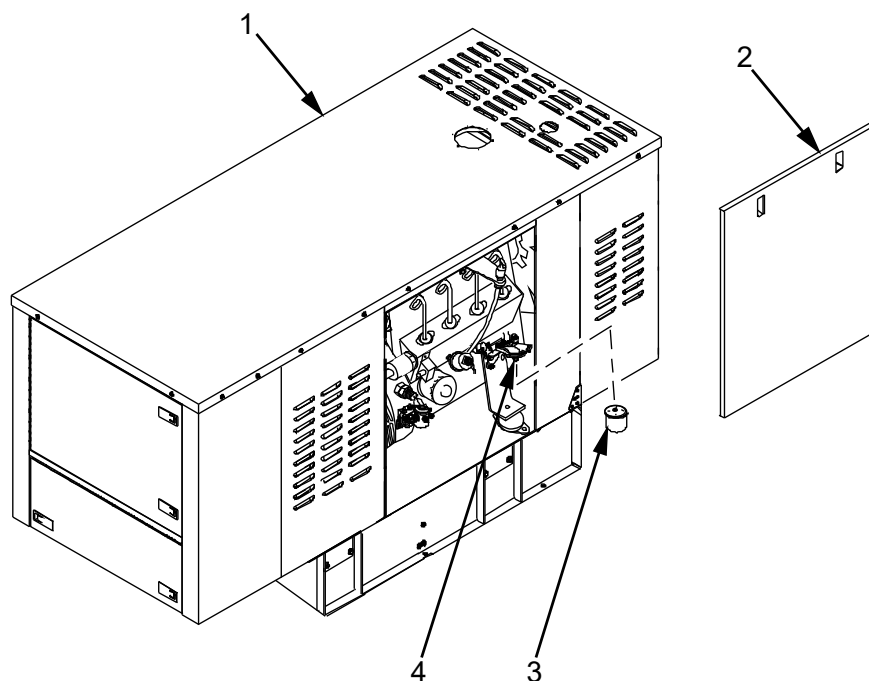
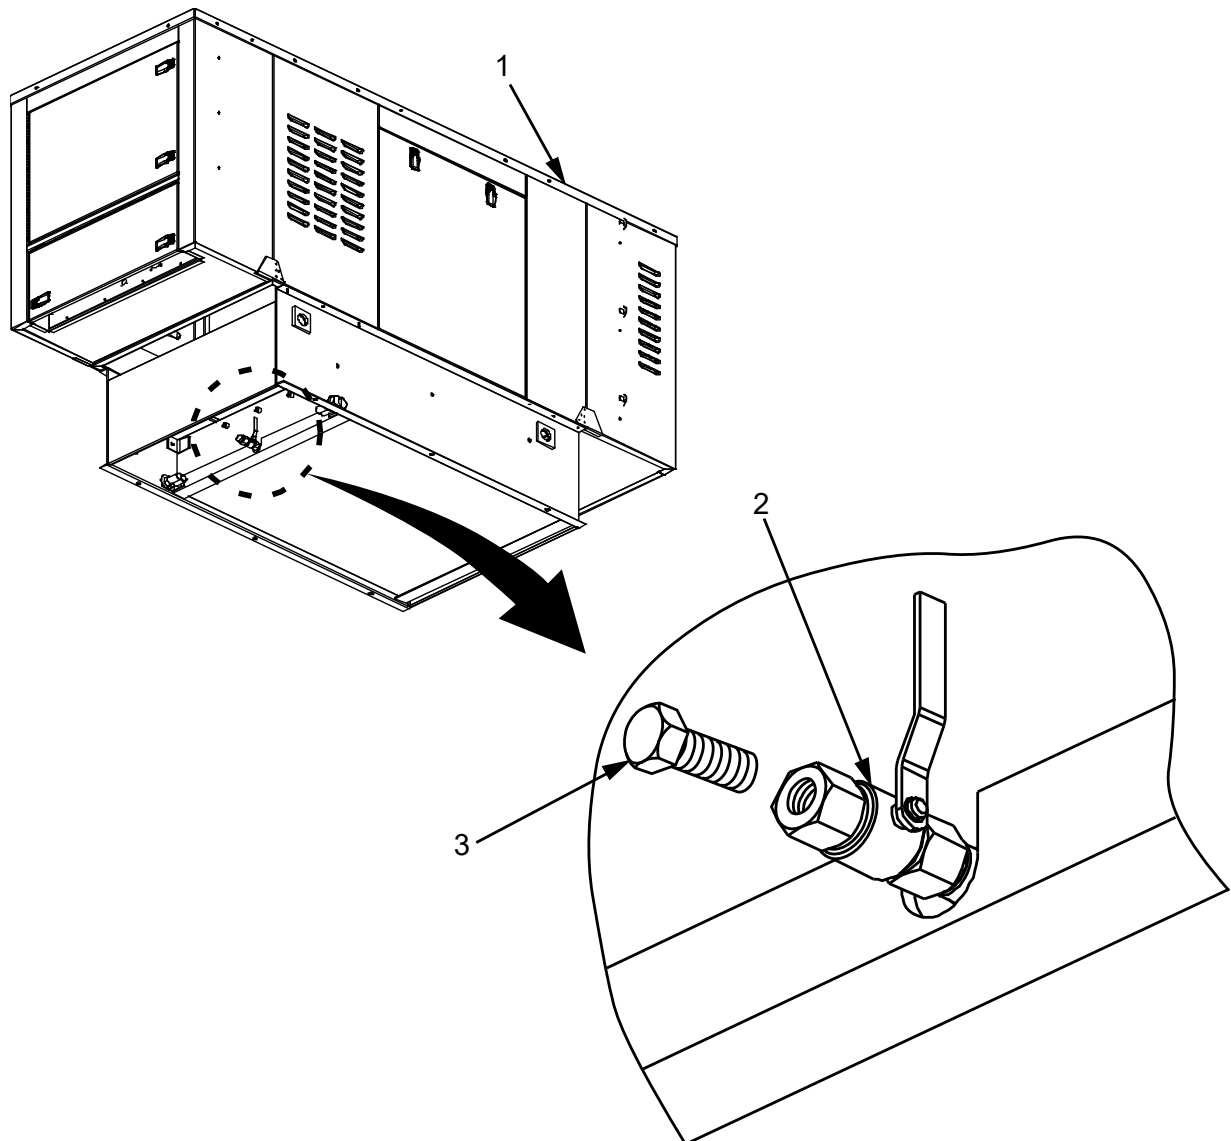

Figure 1. Fuel Filter Inspect.
Figure 2. Genset Fuel Tank Drain Location.
4. Disconnect battery ground cable (black) (WP 0056, Figure 2, Item 26) from battery.
Place drip berm under fuel filter (Figure 1, Item 3) to catch any spillage.
1. Fill fuel filter (Figure 1, Item 3) with clean fuel.
2. Install fuel filter onto fuel filter mount (Figure 1, Item 4). Tighten until hand tight.
4. Connect battery ground cable (black) (WP 0056, Figure 2, Item 26) to battery, and install rear access panel (Figure 1, Item 2).
5. Install access panel (Figure 1, Item 2).
1. Verify that Genset (Figure 2, Item 1) has been shut down, engine is cool, and that BATTERY SWITCH is set to OFF (WP 0005, Genset Shut Down Procedure).
3. Place drain pan under drain valve (Figure 2, Item 2).
4. Remove and retain plug (Figure 2, Item 3) and open drain valve (Figure 2, Item 2).
5. Once fuel tank is empty, close drain valve (Figure 2, Item 2) and install drain plug (Figure 2, Item 3).
7. Start Genset (Figure 2, Item 1) in accordance with WP 0005, Genset Start Procedure.
3. Disconnect battery ground cable (black) (WP 0056, Figure 2, Item 26) from battery.